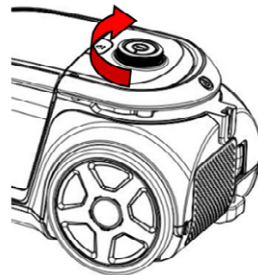

Fig. 6
6. **Fig 6: Suction Power adjustment:**